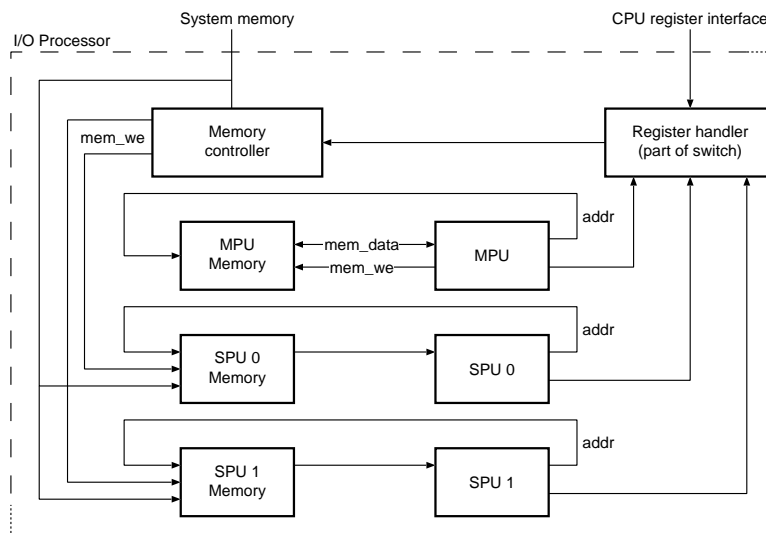

Figure 13.10: Memory Controller location in the I/O Processor architecture
The I/O Processor Memory Controller (MC) handles all memory operations between the system memory and the I/O Processor. The MC is also used when writing to the SPU memories. As seen in figure 13.10, the ETRAX FS I/O Processor contains three internal memories, one for each MPU or SPU instance. The MC can be controlled by the CPU, MPU or an SPU.